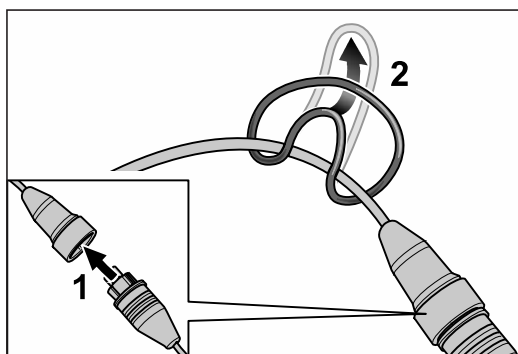
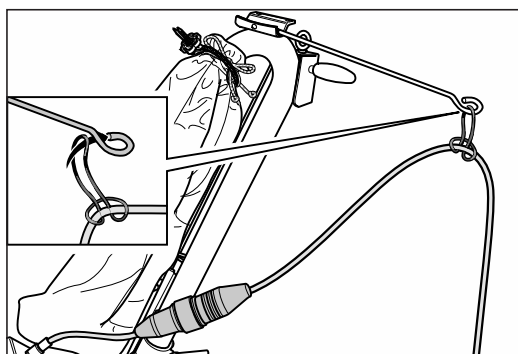

Fig. 17 Combine the motor cable with the extension cable (1). Fasten the strain relief ring on the extension cable (2).
Fig. 18 Mount the strain relief ring on the cable support.
- 2 Combine the motor cable with the extension cable (fig. 17, 1).
- 3 Fasten the strain relief ring on the extension cable (fig. 17, 2). Mount the strain relief ring on the cable support (fig. 18).